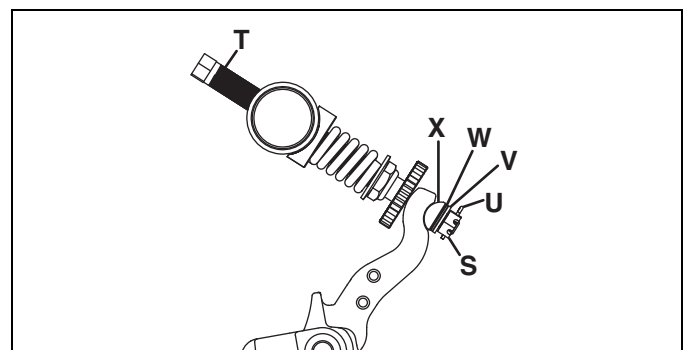

Figure 11P
1. Remove cotter pin **(U)**, slotted nut **(S)**, belleville washer **(V)**, shim washer **(W-if required)**, and half trunnion **(X)**. See Figure 11P